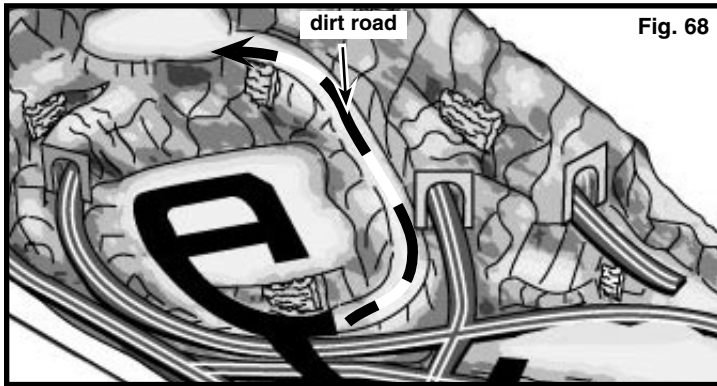

Fig. 68
- A. Following the path of the dirt road (Fig. 68), spray Scenic Cement over road surface.